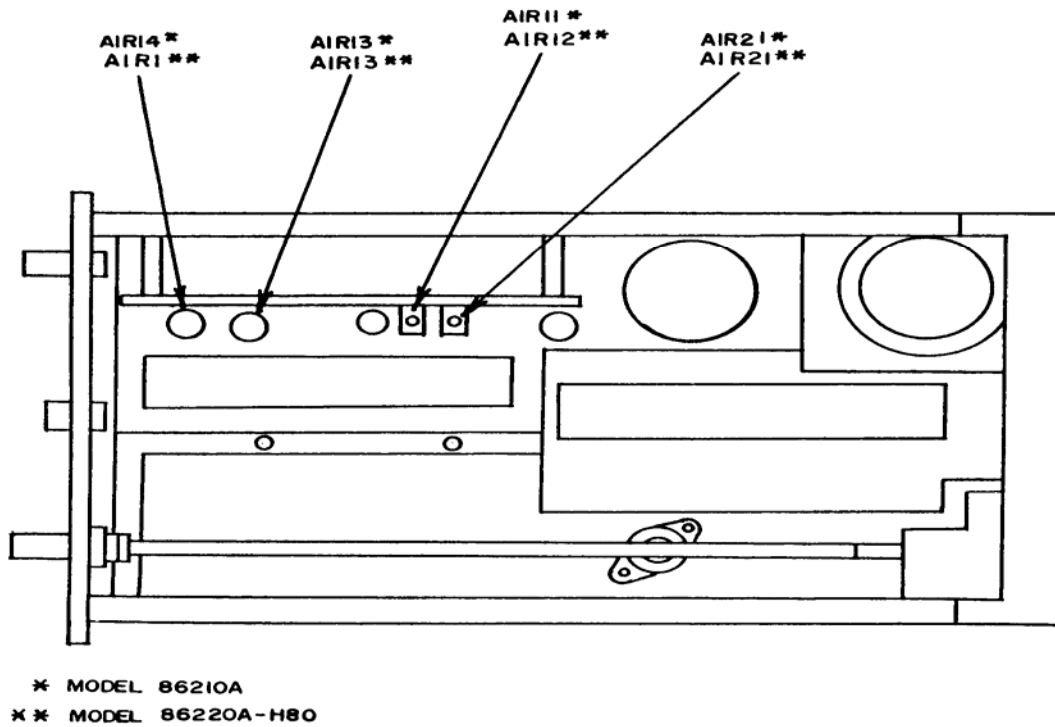

Figure 7. Models 86210A and 86220A-H80 - bottom view.
(1) Model 86210A
(a) Set **POWER LEVEL** control to +13 dBm and adjust A1R14 (fig. 7) for +13 dBm \pm 0.2 dB power output indication (R).
(b) Set **POWER LEVEL** control to 0 dBm and adjust A1R13 (fig. 7) for 0 dBm \pm 0.1 dB power output indication (R).
(2) Model 86220A-H80
(a) Set **POWER LEVEL** control to +10 dBm and adjust A1R1 (fig. 7) for +10 dBm \pm 0.1 dB power output indication (R).
(3) No adjustments can be made for models 86230B-H80, 86241A-H80, 86242A-H80, 86250B-H80, and 86260A-H80.